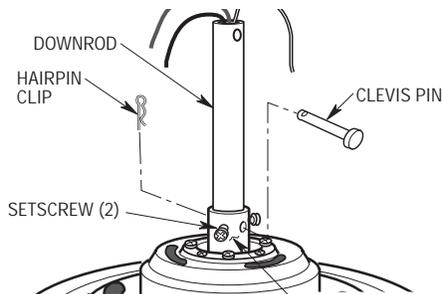

Figure 13
- 9. Loosen both setscrews in the motor coupling (Figure 13).
- 10. Separate, untwist and unkink the three motor leads. Route the motor leads through the downrod and seat the downrod in the motor coupling (Figure 13).
- 11. Align the clevis pin holes in the downrod with the holes in the motor coupling. Install the clevis pin and secure with the hairpin clip (Figure 13). (Pin and clip are supplied in loose parts bag.) The clevis pin must go through the holes in the motor coupling and the holes in the downrod. Push the straight leg of the hairpin clip through the hole near the end of the clevis pin until the curved portion of the hairpin clip snaps around the clevis pin. The hairpin clip must be properly installed to prevent the clevis pin from working loose. Pull on the downrod to make sure the clevis pin is properly installed.
It is critical that the clevis pin in the motor coupling is properly installed and the setscrew securely tightened. Failure to verify that the pin and setscrew are properly installed (as shown in Figure 13) could result in the fan falling.